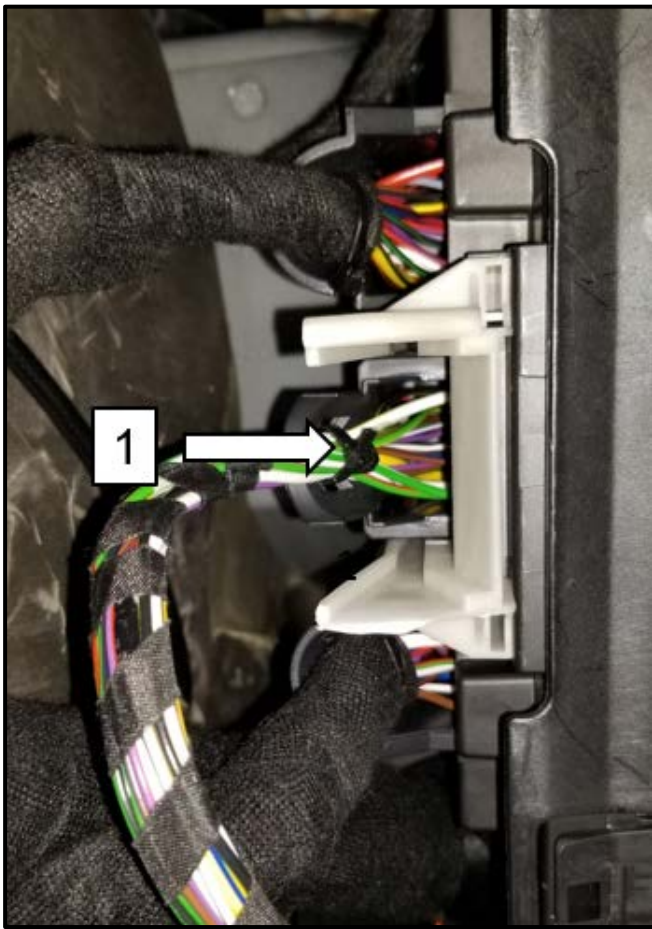

Fig. 1
- Disconnect the center connector <1 - Fig. 1> on the Vehicle Electrical System Control Module -J519-.